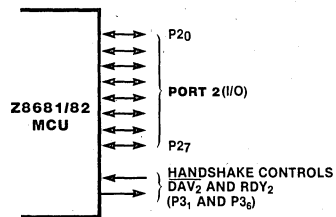

Figure 11. Port 2
**Port 2** bits can be programmed independently as input or output (Figure 11). This port is always available for I/O operations. In addition, Port 2 can be configured to provide open-drain outputs.